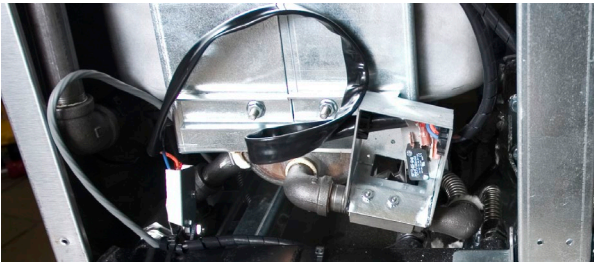

Figure 4 The rear valve switch is shown in place. It is wired in parallel with the existing switch, using piggyback terminals.
10. Install the micro-switch assembly on the new valve. See **figure 4**.